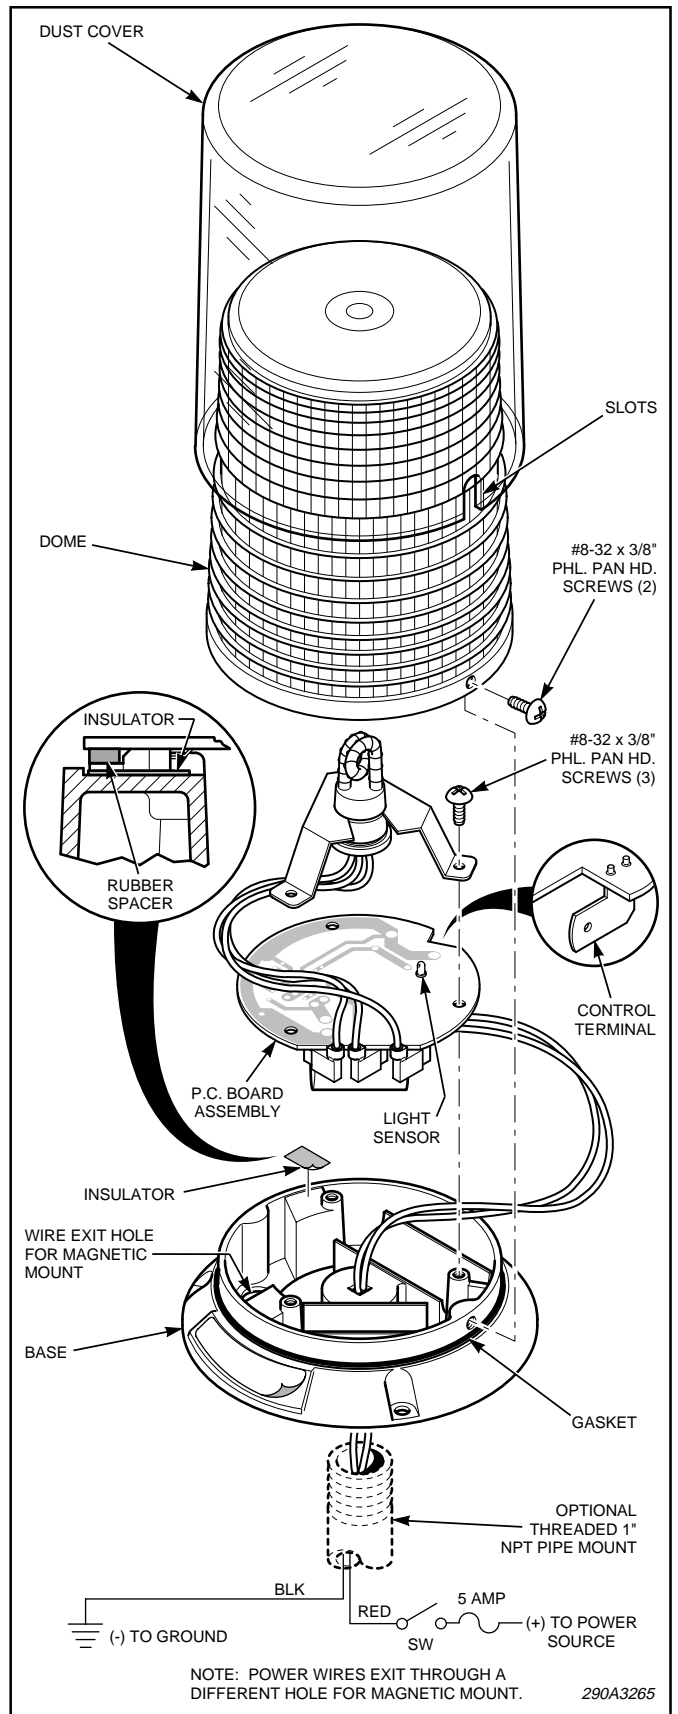

Figure 3.
- c. See figure 3. Locate the notch on the edge of the circuit board. The manual override control terminal is located under the notch. Determine the length of wire needed for the installation.
- f. See figure 3. Remove and retain the three screws which secure the bracket and PC board to the base. Retain the insulator and rubber spacer. Carefully lift the PC board assembly.